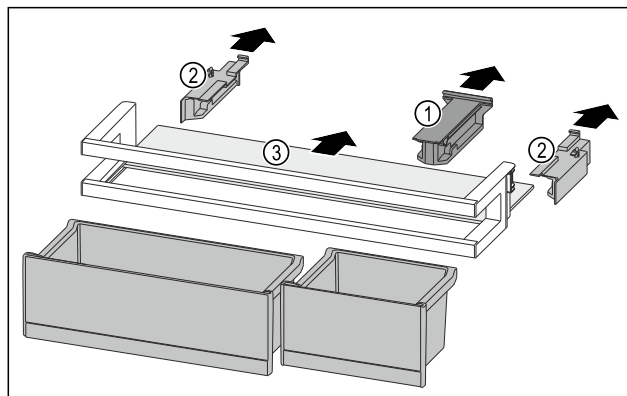

Fig. 91
- Pull off the holding part Fig. 91 (1).
- Pull off the side parts Fig. 91 (2).
- Remove the shelf Fig. 91 (3).